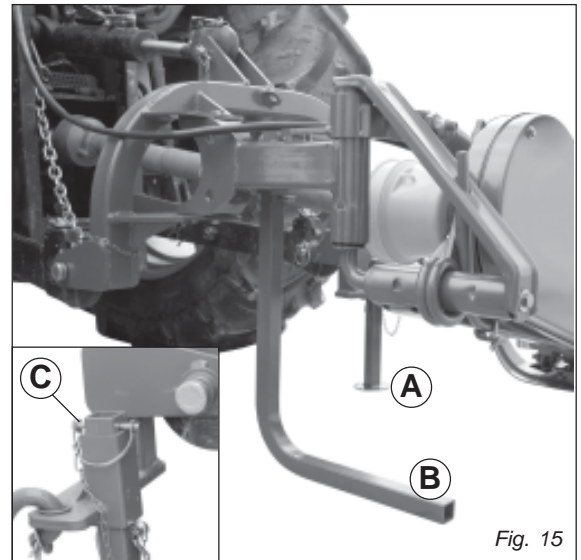

Fig. 15
The sickle bar must be set-up on flat and compact ground, supported by the relative supports (A and B, Fig. 15).
2. Put parking stand (A and B, Fig. 15) in the DOWN position: install spring locking pin in order to secure parking stand (C, Fig. 15).
- 17) Before operating the mowing machine, check that the support struts (A and B, Fig. 15 page 15) have been removed from underneath the implement. Make sure that the sickle bar has been correctly mounted and adjusted. Check that the machine is in perfect order and that all components subject to wear and deterioration are efficient.